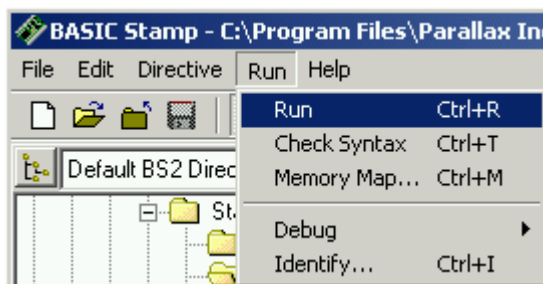

Figure 1-40
- ✓ Click Run, and select Run from the menu that appears (by clicking it) as shown in Figure 1-40.
Run your modified program. Hint: you will have to either click Run from the Run menu again, like in Figure 1-40, or click the Run button, like in Figure 1-42.